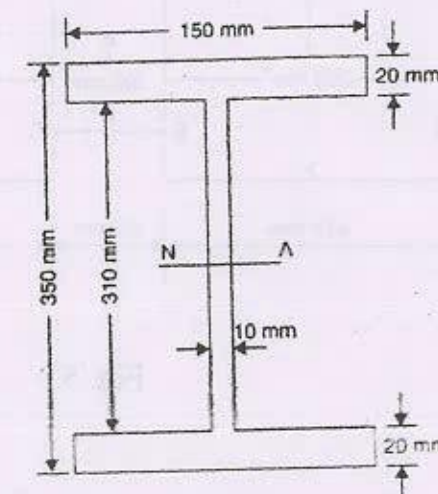

Fig.4
- b) An I-section beam $350 \text{ mm} \times 150 \text{ mm}$ has a web thickness of 10mm and a flange thickness of 20mm. (Fig.4) If the shear force acting on the section is 40 kN, find the maximum shear stress developed in the I-section. Also sketch the shear stress distribution across the section. [9]